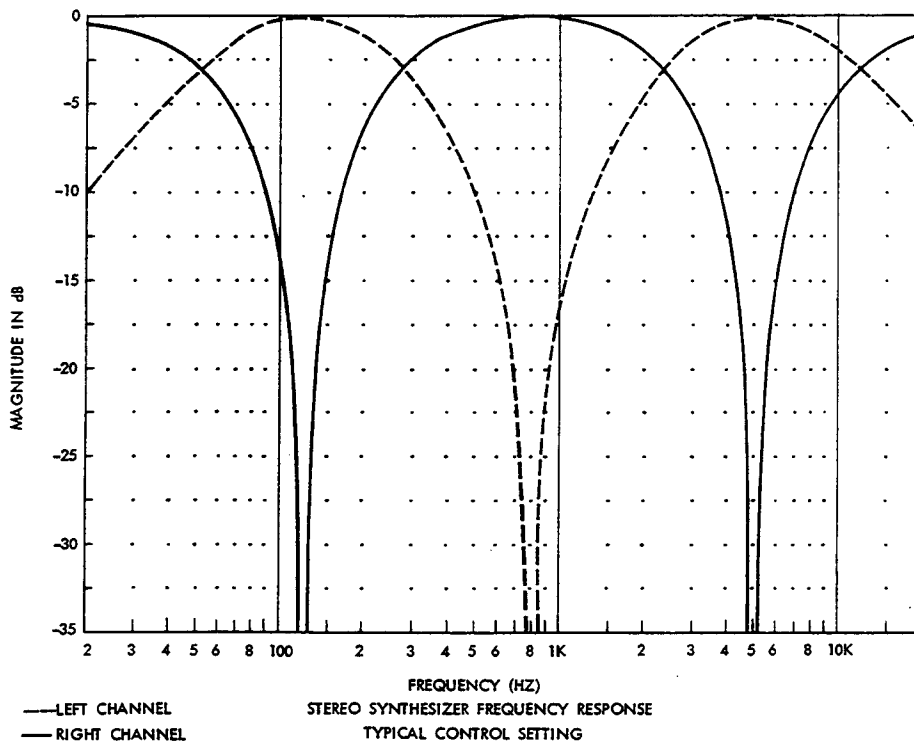

Fig. 2: STEREO SYNTHESIZER FREQUENCY RESPONSE,
- 3) Set both DIMENSION controls to "5". Set the SEPARATION control to "10". Turn the STEREO/MONO switch to STEREO. Measure the frequency response of the left and right channels (using the sweep generator and scope, or the Tektronix 5L4N). The frequency responses of the two channels should resemble those shown in Fig. 2. Note that the DIMENSION controls will affect the frequencies of the nulls shown in Fig. 2.
The output of IC3 drives a final phase shifter, consisting of R16-19, C7, and IC4A. The operation of this phase shifter is fundamentally similar to its predecessor, and incorporates the HIGH DIMENSION control R18. However, IC4A is also the left channel output driver amplifier. It contains an internal high-current output stage capable of driving 600 ohm loads, and it has an extra input: the original input signal is added through R21 to the phase shifted signal. Therefore, the output of IC4A is actually the phase shifted signal added to the original signal, yielding the synthesized left channel. This left channel has a frequency response consisting of several dips. The typical frequency response is shown in Fig. 2 (above, in Part I of this section). The depth of the dips is controlled by the SEPARATION control, R6.